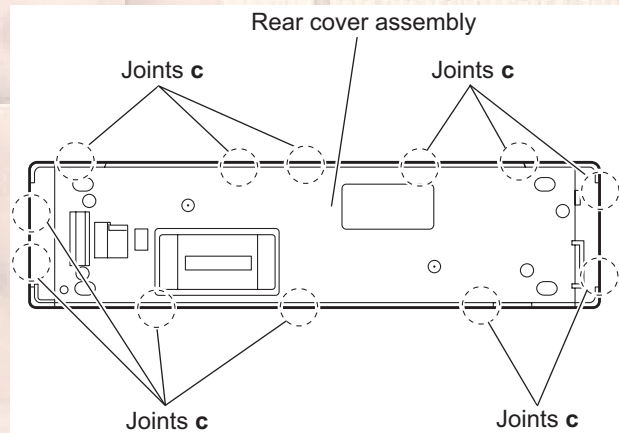

Fig.16
- (2) Release the twelve joints **c** of the front panel assembly and remove the rear cover assembly. (See Fig.16)